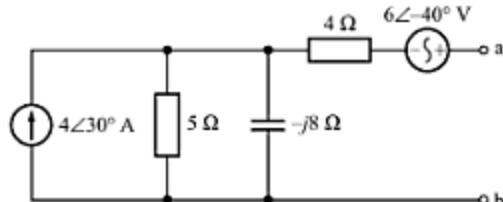

Fig. C-66
- C-97. Find Z_N and I_N for the Norton's equivalent of the circuit shown in Fig. C-66.